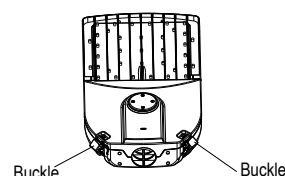

Figure 13
Step 2: Lower the support frame to hold the cover of the driver box in place (Figure 13).